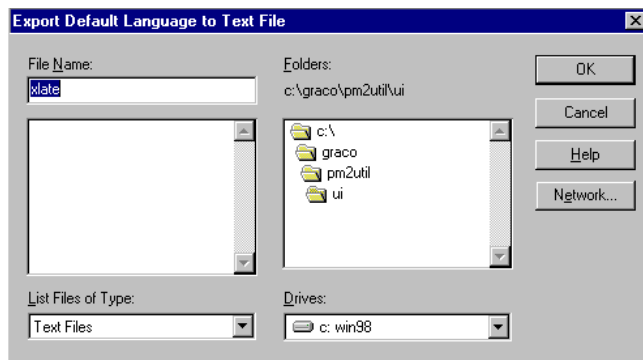

Fig. 13.53
- Name the file and press the OK button to create the text file. See Fig. 13.53.